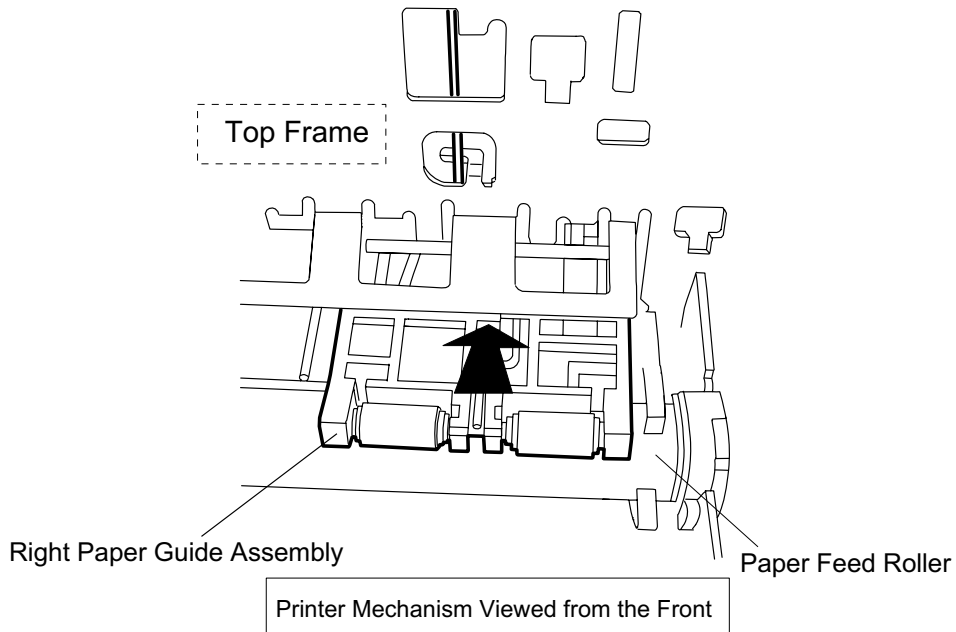

Figure 3-55. Right Paper Guide Installation
- When mounting the right paper guide assembly, insert it into the gap from the front, as shown in Figure 3-55.